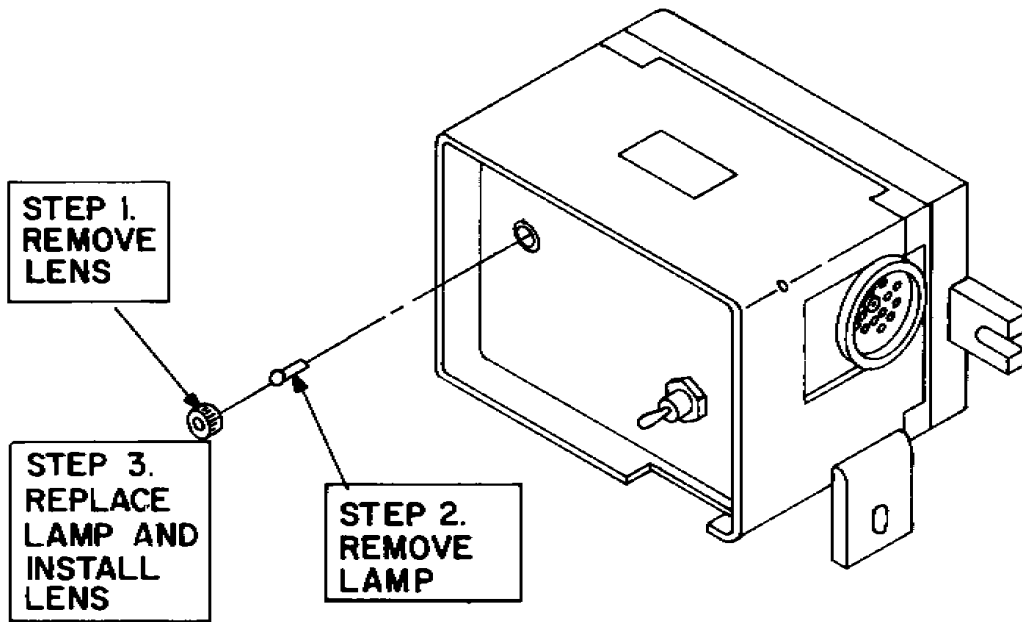

Figure 6-1. Indicator Lamp Removal and Replacement.
(3) Troubleshooting table. The troubleshooting table 6-1 lists symptoms of common trouble and gives the corrective measures or references. The table cannot include all trouble symptoms that may occur; therefore, the technician should use this table as a guide in analyzing symptoms that may not be listed.
(4) Component locations. Figures 6-1, 6-2 and 6-3 show component locations on the F-1461/VRC.
6-8. Replacement of Indicator Lamp (fig. 6-1)
Refer to figure 6-1 to remove and replace the indicator lamp.